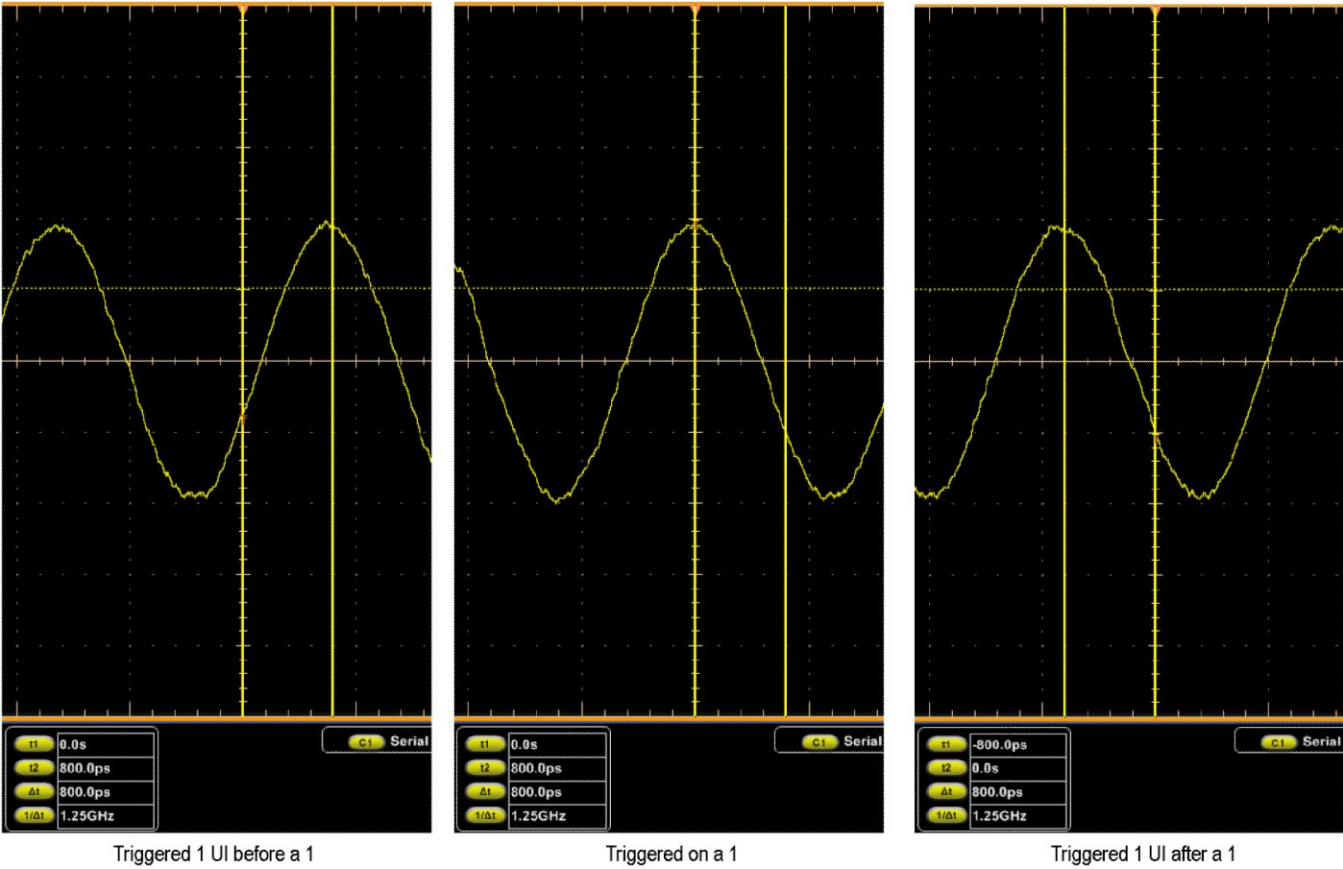

Figure 43: Isolated 1 triggering
- e. Center Cursor 2 in the high of the waveform just to the right of the center graticule line. (See Figure 43: Isolated 1 triggering on page 276.)
- f. Verify that the instrument triggers one Unit Interval (UI) before the 1 in the input signal. The absolute value of the T1 cursor readout must be ≤ 325 ps. Enter pass or fail in the test record.
- j. Center the Cursor 1 in the waveform high nearest the center graticule line. (See Figure 43: Isolated 1 triggering on page 276.)
- o. Center Cursor 1 in the high of the waveform just to the left of the center graticule line. (See Figure 43: Isolated 1 triggering on page 276.)
- p. Verify that the instrument triggers one Unit Interval (UI) after the 1 in the input signal. The absolute value of the T2 cursor readout must be ≤ 325 ps. Enter pass or fail in the test record.